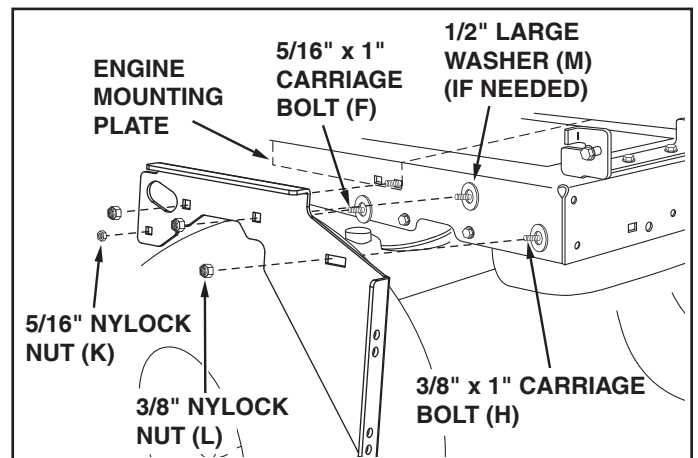

FIGURE 3
STEP 3: (SEE FIGURE 3)
- Fasten the R.H. hanger bracket (bend facing out) to the holes indicated in the tractor frame. If there is an engine mounting plate like the one drawn with dotted lines, use large 1/2" flat washers (M) as shims between the hanger bracket and the tractor frame in the locations shown. In the front three holes use three 3/8" x 1" carriage bolts (H), two large 1/2" washers (M) if needed, and three 3/8" nylock nuts (L). In the rear hole use a 5/16" x 1" carriage bolt (F), a large 1/2" washer (M) if needed, and a 5/16" nylock nut (K). Tighten all bolts. Repeat for the L.H. hanger bracket.